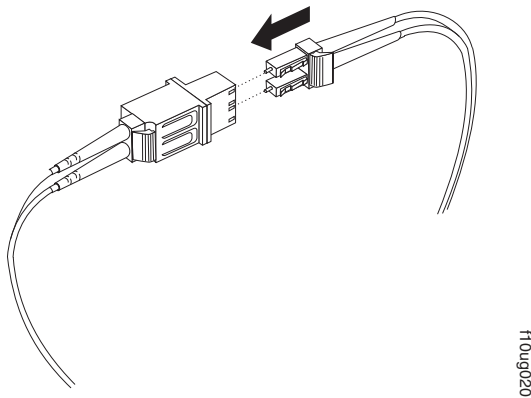

Figure 44. Connecting an LC-LC cable into the LC-SC cable adapter
4. Carefully insert the other end of the LC-LC cable into the LC connector end of the LC-SC cable adapter as shown in Figure 44. Push in the connector until it clicks into place.